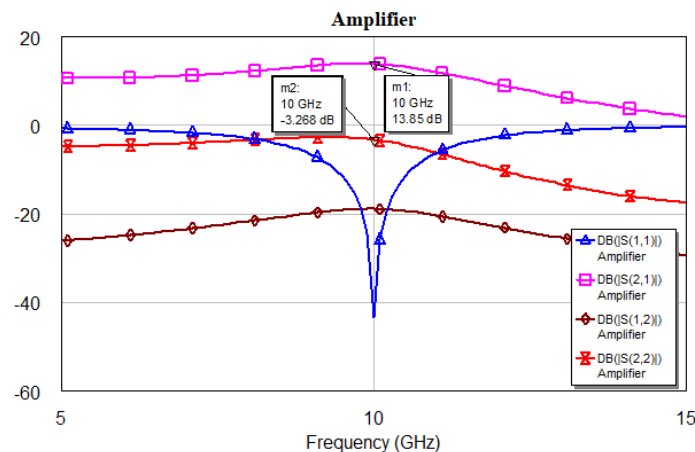

Fig. 6 S-parameters of the amplifier.
- Change the frequency range of the project to $f_0 \pm 50\%$ and simulate the final amplifier parameters, see Fig. 6.